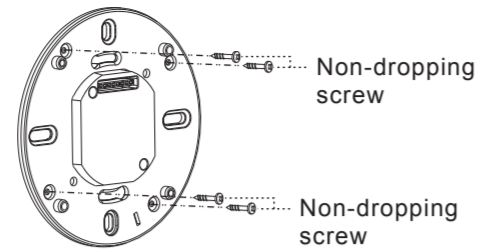

FIG.17
3.4.3.4 Insert 4pcs non-dropping screws to the corresponding screw holes on detector's fixing plate, and those 4pcs screws will not drop off to provide convenience to the subsequent installations (See FIG.17).